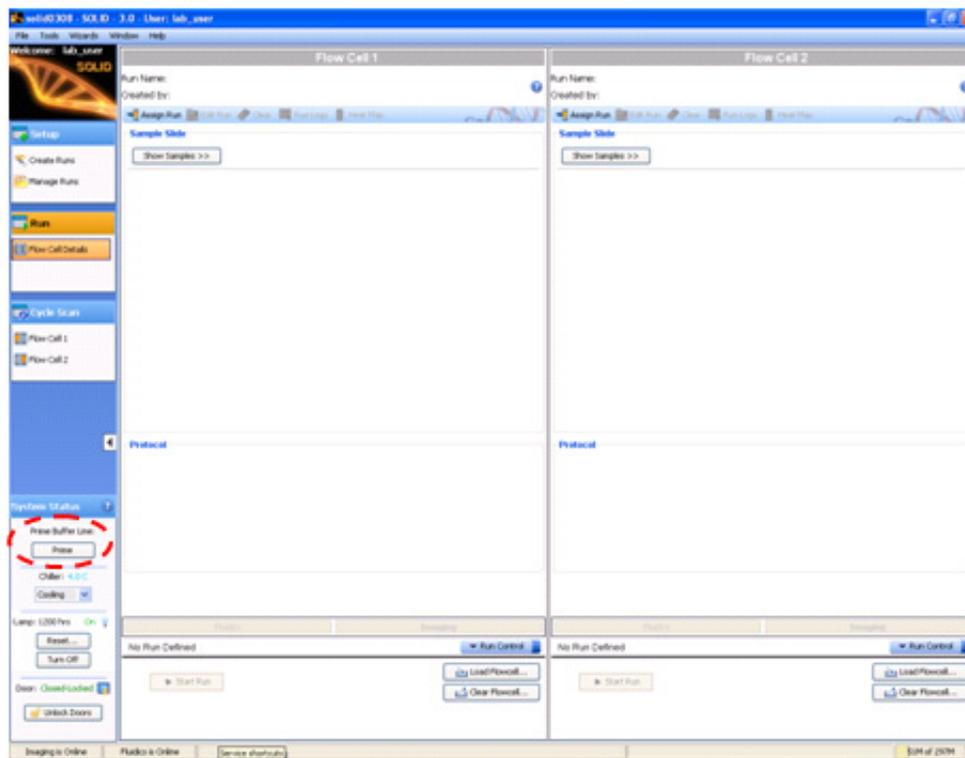

Figure 17 Click **Prime** to prime the instrument and storage buffer lines.
1. Under the System Status menu, click **Prime** (see Figure 17 on page 26).